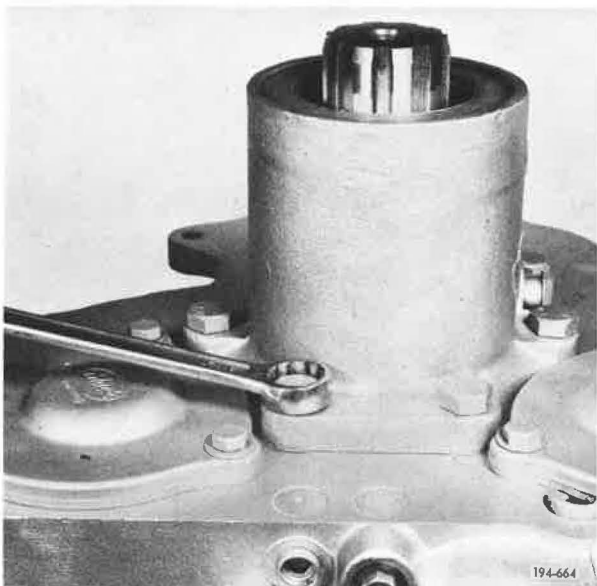

Figure 5-272. Removing Capscrew
3. Remove rear mainshaft rear bearing cover capscrews. See Figure 5-272.